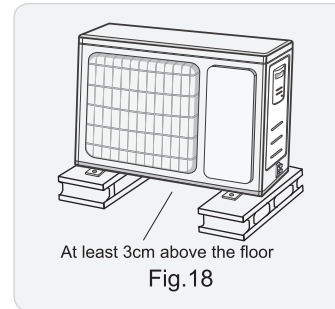

Fig. 18
- (1) Select installation location according to the house structure.
- (2) Fix the support of outdoor unit on the selected location with expansion screws.
- The outdoor unit should be installed at least 3cm above the floor in order to install drain joint.(As show in Fig.18)